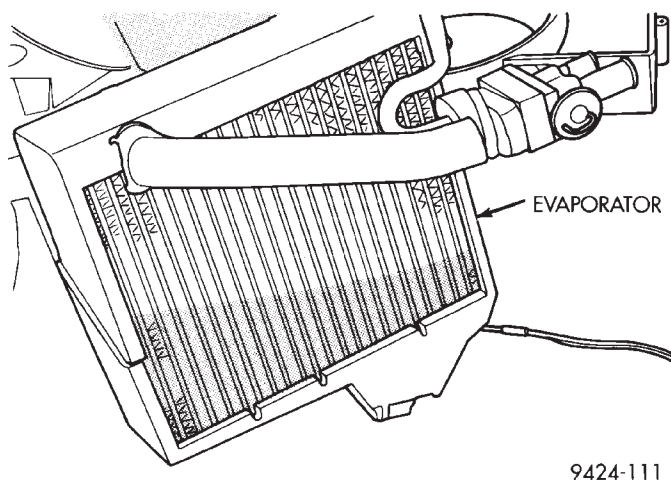

**Fig. 73 Evaporator Removal**
- (19) Remove evaporator assembly from lower housing (Fig. 73).